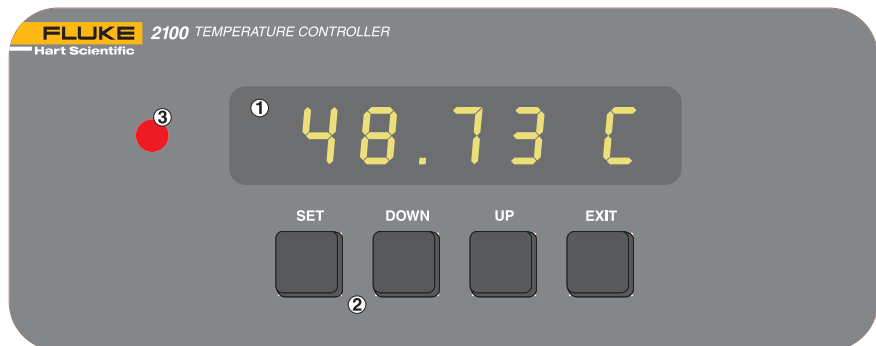

Figure 4 Front panel features
The following controls and indicators are present: (1) the digital display, (2) the control buttons, and (3) the control indicator light. (see Figure 4)
(1) The digital display is an important part of the temperature controller because it not only displays set and actual temperatures but also various controller functions, settings, and constants. The display shows temperatures in values according to the selected scale °C or °F.
(2) The control buttons (SET, DOWN, UP, and EXIT) are used to set the temperature set-point, access and set other operating parameters, and access and set calibration parameters.